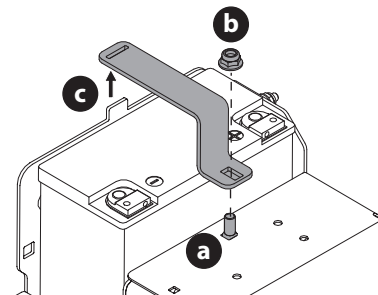

Fig. 37
4. Locate and hold the carriage bolt (a) at the front of the battery bracket (c) to prevent it from falling (Fig. 37).
5. Remove the hex lock nut (b) securing the battery bracket (c) in place. Save the carriage bolt and hex lock nut for later reinstallation (Fig. 37).
6. Lift the battery bracket (c) off of the tab at the left side of the battery compartment and save for later reinstallation (Fig. 37).